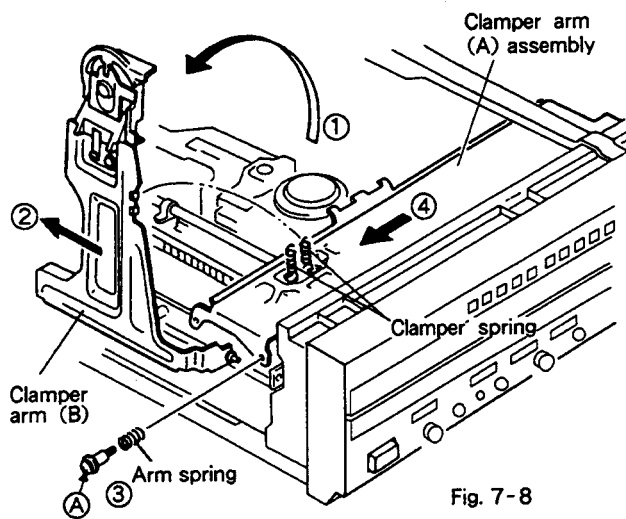

Fig. 7-8
### 7.4 REMOVING THE CLAMPER ARM (B) AND CLAMPER ARM (A) ASSEMBLY (Fig. 7-8)